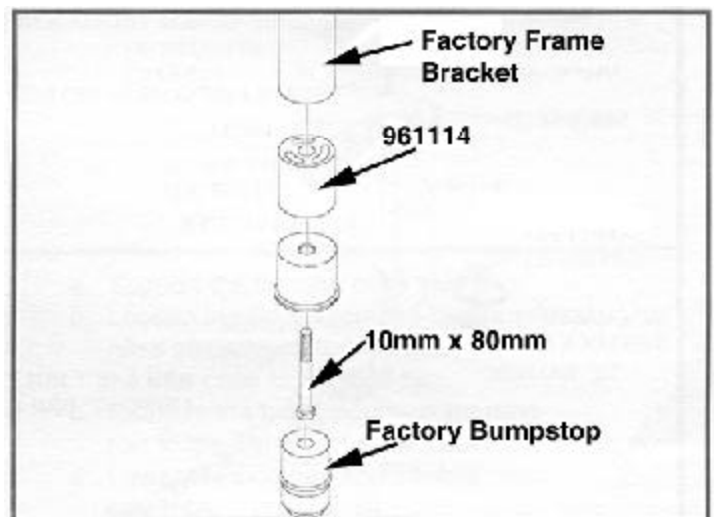

Fig. 1
- c. Install bump stop spacer (961114) and the factory bump stop cups, using (1) 10mm x 80mm coarse threaded bolt as shown in **Fig. 1**.